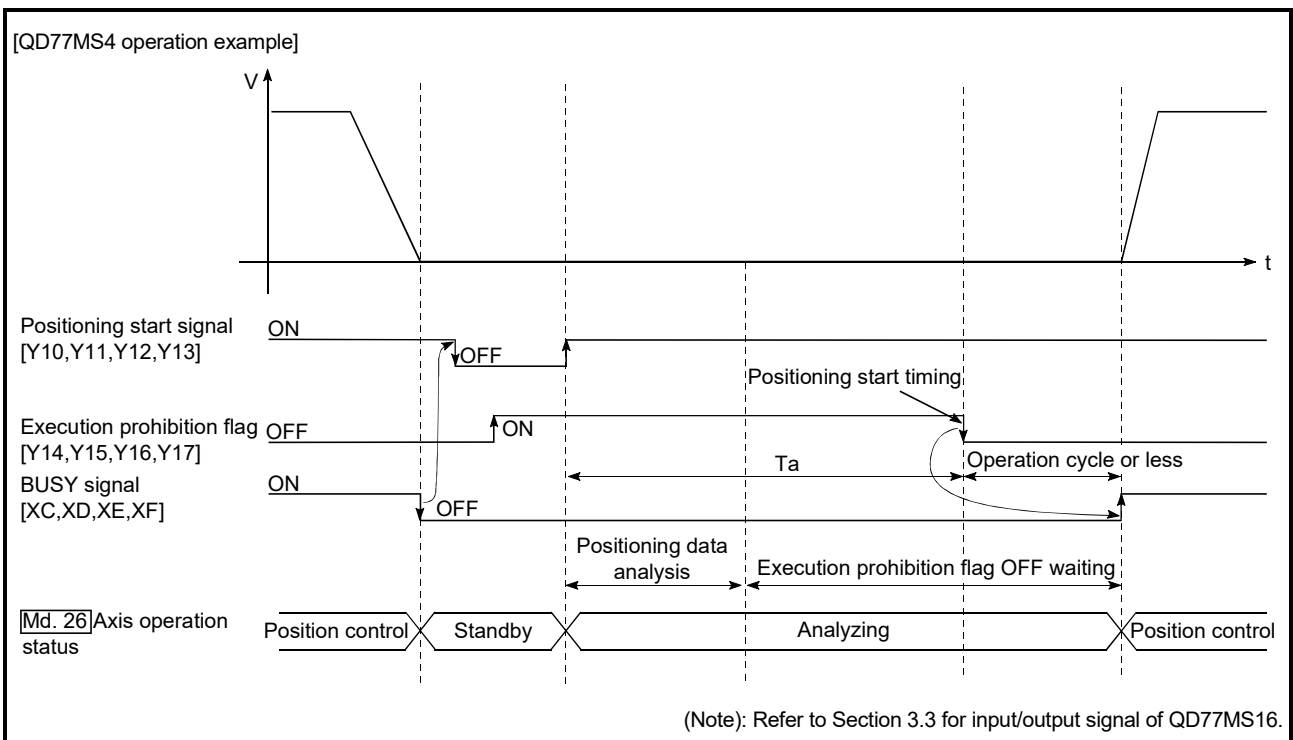

Fig. 13.46 Operations of pre-reading start function
The pre-reading start function is performed by turning ON the positioning start signal with the execution prohibition flag ON, or by executing the dedicated instruction (ZP.PSTRT1, ZP.PSTRT2, ZP.PSTRT3, and ZP.PSTRT4). However, if positioning is started with the execution prohibition flag ON, the positioning data is analyzed but servo start is not provided. While the execution prohibition flag is ON, "[Md.26] Axis operation status" remains unchanged from "5: Analyzing". The servo starts within operation cycle after the execution prohibition flag has turned OFF, and "[Md.26] Axis operation status" changes to the status (e.g. position control, speed control) that matches the control method. (Refer to Fig.13.46)
- (1) The time required to analyze the positioning data is up to 0.88ms (QD77MS2/QD77MS4)/3.55ms(QD77MS16).
- (2) After positioning data analysis, the system is put in an execution prohibition flag OFF waiting status. Any change made to the positioning data in the execution prohibition flag OFF waiting status is not reflected on the positioning data. Change the positioning data before turning ON the positioning start signal.
- (3) The pre-reading start function is invalid if the execution prohibition flag is turned OFF between when the positioning start signal has turned ON and when positioning data analysis is completed ($T_a < \text{start time}$, T_a : Refer to Fig. 13.46).
- (4) The data No. which can be executed positioning start using "[Cd.3] Positioning start No." with the pre-reading start function are No. 1 to 600 only. Performing the pre-reading start function at the setting of No. 7000 to 7004 or 9001 to 9004 will result in the error "Outside start No. range" (error code: 543).
- (5) Always turn ON the execution prohibition flag at the same time or before turning ON the positioning start signal. Pre-reading may not be started if the execution prohibition flag is turned ON during T_a after the positioning start signal is turned ON. The pre-reading start function is invalid if the execution prohibition flag is turned ON after positioning start with the execution prohibition flag OFF. (It is made valid at the next positioning start.)